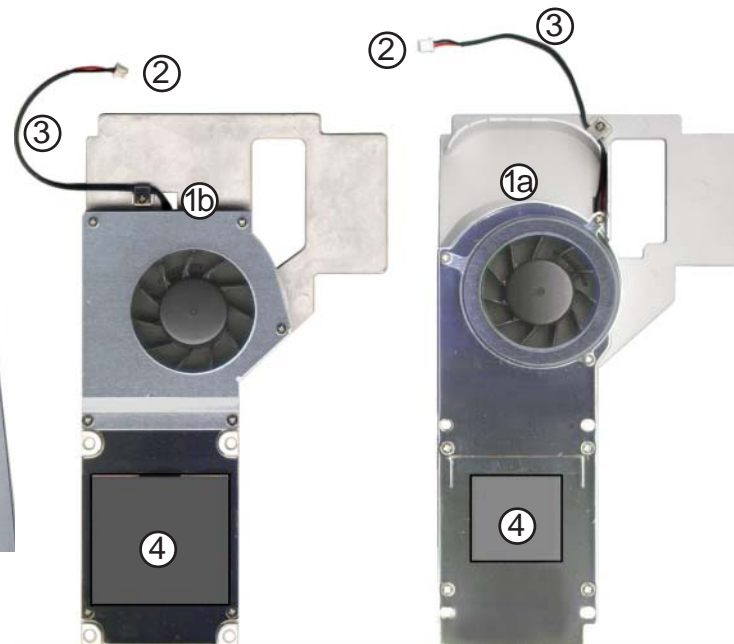

figure 2-9
2. Lift up the heat sink part way until you see the heat sink cable. Disconnect the cable from the mainboard (figure 2-9).